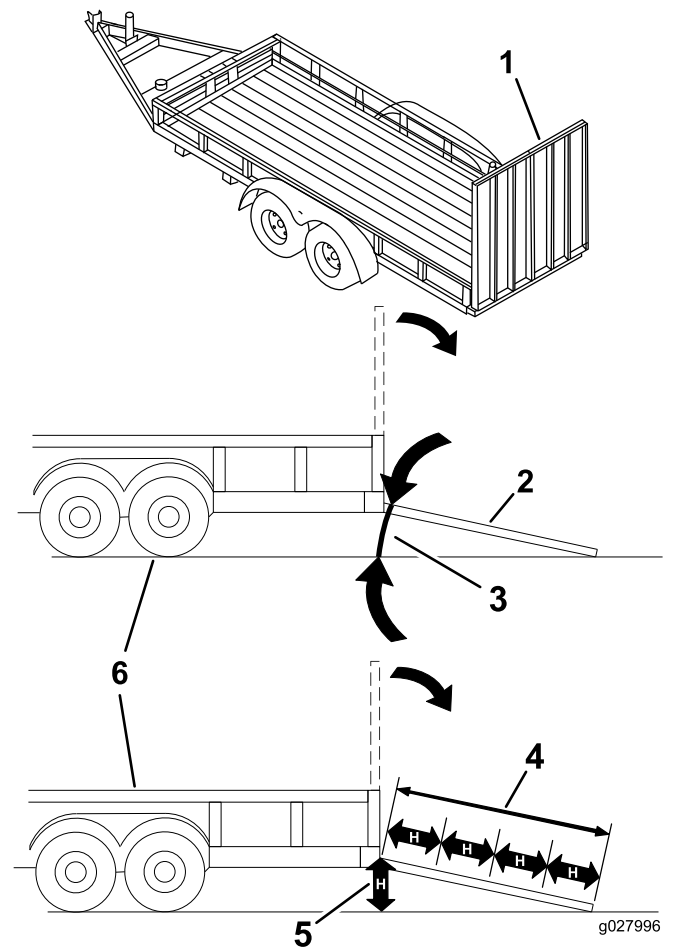

Figure 31
Loading a machine onto a trailer or truck increases the possibility of tip-over and could cause serious injury or death (Figure 31).
3. Lower the ramp, ensuring that the angle between the ramp and the ground does not exceed 15 degrees (Figure 31).
1. Lower the ramp, ensuring that the angle between the ramp and the ground does not exceed 15 degrees (Figure 31).